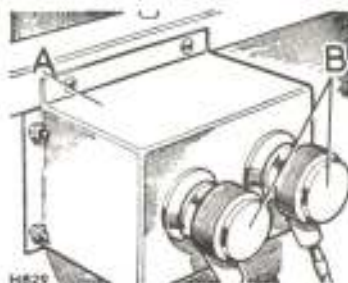

Fig. 131 Insulated terminals
347. A pair of insulated terminals (Fig. 131) are mounted on a bracket attached to the front of the rear body adjacent to the radio table. These terminals provide a safe stowage for the ends of the battery/terminal box leads when disconnected from the battery.
- (6) Release the two spring-loaded fasteners from the hooks on the front of the battery cover.
- (7) Carefully withdraw the cover rearwards from the batteries.
- (8) Slacken the wing nuts securing the slotted battery interconnector and remove the connector. Do not remove the battery post connectors. If two sets of batteries are fitted, disconnect the second set similarly.
- (9) Similarly release the remaining two battery connections, double back the leads and secure the spade terminals to the insulated terminals (Fig. 131 (B)) on the rear of the bulkhead. Locate the double-back section of the leads in the stowage cleat (Fig. 118 (10)) situated below the insulated terminals.
- (10) Release the batteries secured by the swivel type clamps, and lift them from the carrier.
- (11) Release the battery carrier secured by ten countersunk bolts with nuts and spring washers.
- (12) Release the two spring-loaded fasteners used to secure the battery cover. Two bolts with spring washers secure each fastener; captive nuts are provided beneath the floor.
- (13) Unscrew the four nuts and bolts securing each aerial mounting bracket (left-hand bracket for one HF set installation) and remove the bracket complete with mounting. Alternatively first remove the mounting from the bracket by unscrewing the captive screw at the bottom of the mounting and then withdrawing the mounting; use a tommy bar to turn the screw.
- (14) Only if required, release the slotted angle framework. Six bolts with plain washers screwed into captive nuts secure the assembly.
- (15) Release the seat strap/s from the stud/s on the wheel arches and lift the seat/s from the vehicle.
- (16) Release the small table, if fitted, secured by four nuts and spring washers.
- (17) Release the three top hat sections, if fitted, from each wheel arch; each section is secured by two bolts with nuts and spring washers and distance pieces.
- (18) Re-route and stow the ATU co-axial connectors in the reverse sequence to that indicated at para. 334.